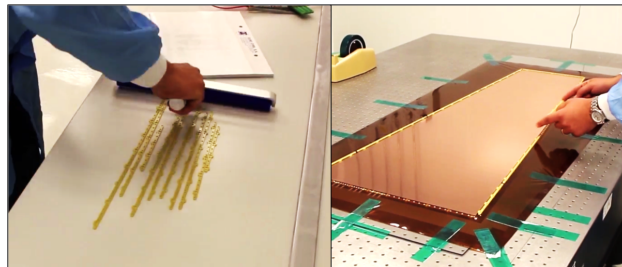

Figure 69: Cleaning and positioning of the 2 mm internal frames.
Step 20: Clean the set of 2 mm thick frames and place it on the stack to make the second transfer gap (Fig. 69).